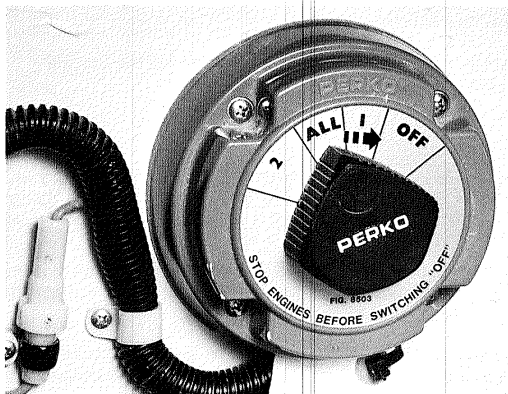

Figure 23
2. Put the battery main switch in the "Off" position. See figure 23.